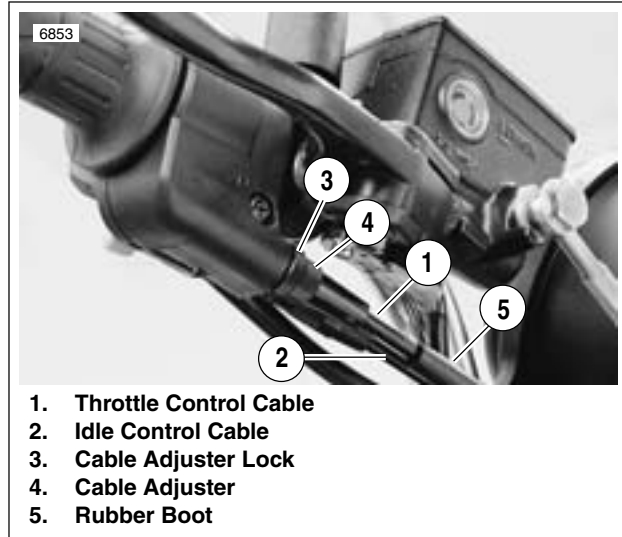

Figure 2-87. Throttle Control Cables
1. See Figure 2-87. Slide rubber boot (5) off the cable adjusters (4). Loosen cable adjuster lock (3) on each adjuster.